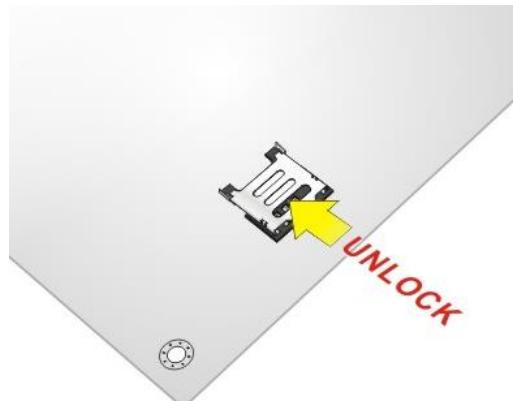

Figure 3-8: Unlock SIM Card Slot Cover
Step 2: Unlock the SIM card slot cover by sliding the cover in the direction as shown by the arrow in **Figure 3-8**.